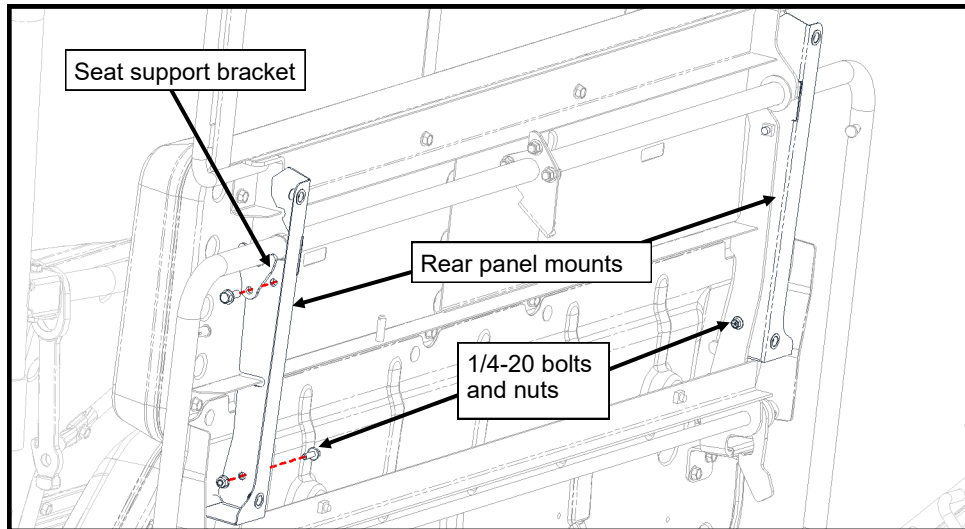

Figure 3.2: Lower Rear Panel Mounts
- 3.2 Remove the bracket holding the seat support rod to the seat back (Figure 3.2) and install the Rear Panel Mount between the bracket and the seat frame. Reinstall the seat support bracket with the original fastener. Align the lower hole of the mount to the hole in the seat frame and install (1) flanged hex 1/4-20 x 3/4" bolt and flanged nut. Repeat for the opposite side.